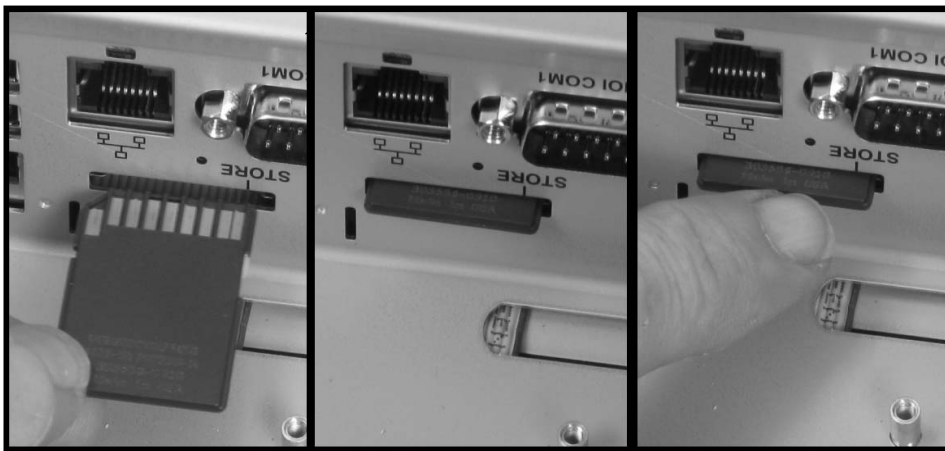

Figure 3-2: Inserting and Removing the SD Memory Card
Figure 3-2 below, demonstrates how to orient the SD Memory Card before insertion.
- If the operating system does not start after about 30 seconds, make sure an SD Memory Card is installed in the OPTION slot (See Figure 3-2).